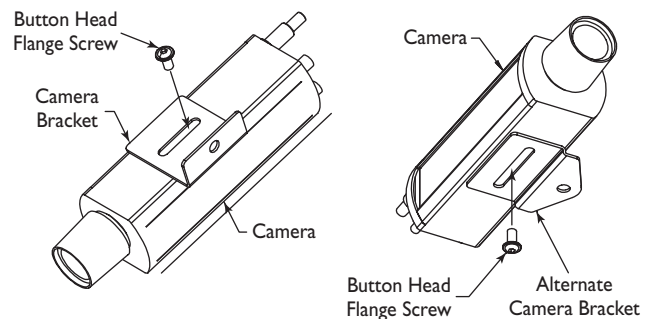

Figure 11 Camera Mounts
3. Secure the camera to the camera mount using one $\frac{1}{4}$ -20 x $\frac{1}{2}$ -inch button-head flange screw. See **Figures 11, 12, and 13**.